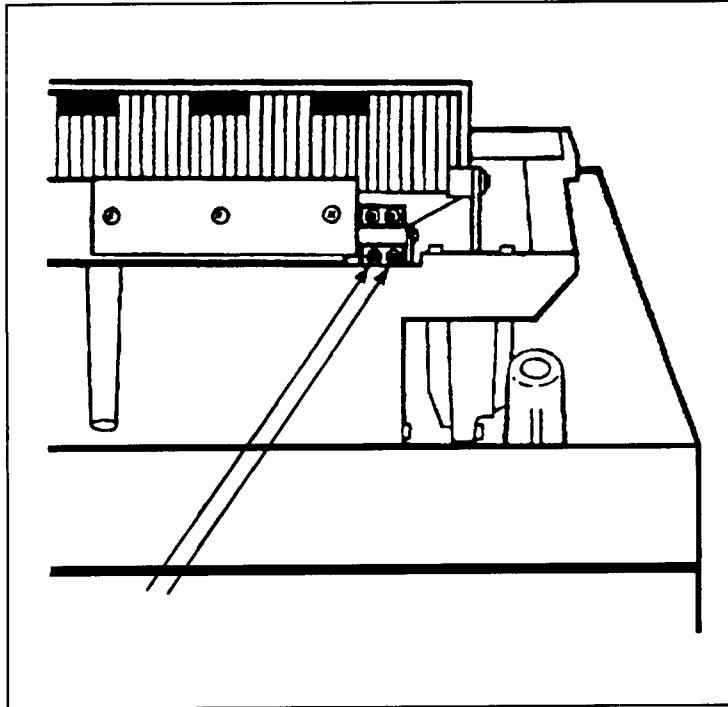

Figure 6-22. Lower Crank Arm Screws
- e. Remove the two screws (3mm socket cap screws) and the flat plate which secure the end of the lower crank arm to the print mechanism (Figure 6-22).
- e. Attach the lower crank arm to the counter weight using the flat plate and two screws, but do not tighten the screws at this time (see Figure 6-22).